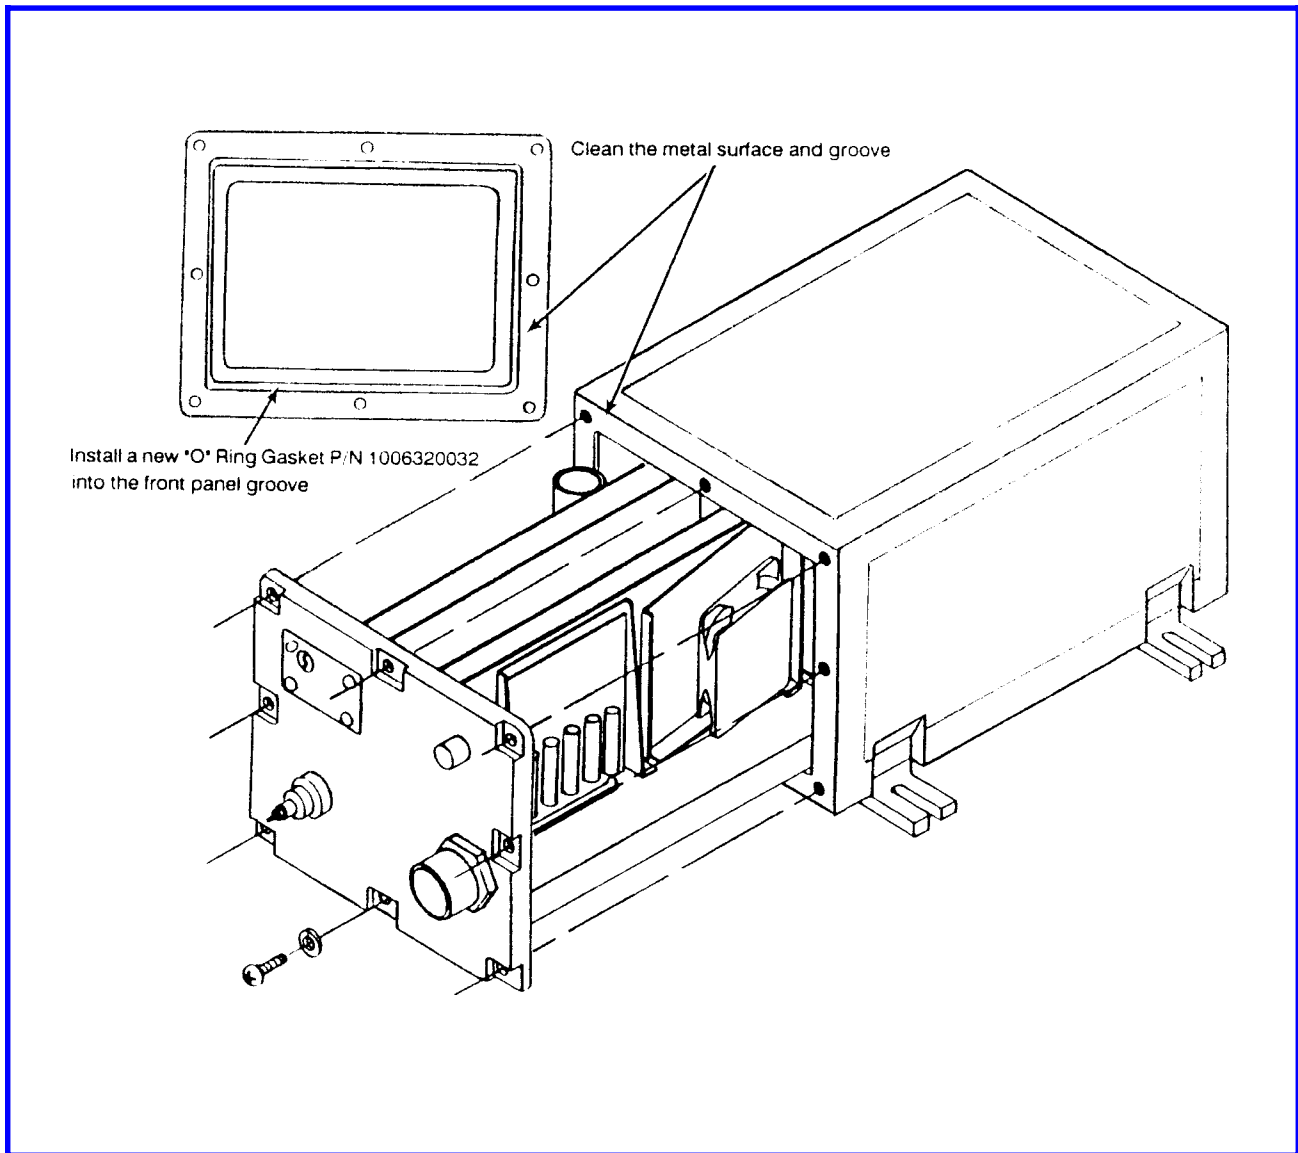

Figure 5.1 CU-9125 Antenna Coupler Cover Removal.
1. The complete outside of the coupler unit should be washed with fresh water every two (2) weeks.
2. Once a year open the coupler unit and remove the old gasket. Clean the metal surface and groove in the front panel. Clean the metal mating surface on the case. Install a new "O" Ring Gasket P/N 1006320032 into the front panel groove and reassemble coupler unit. See Figure 5.1.
NOTE: If upon completion of the Performance Test Procedures, the CU-9125 is not operating properly, accomplish the following alignment procedures. Remove Antenna Coupler from case, see Figure 5.1.